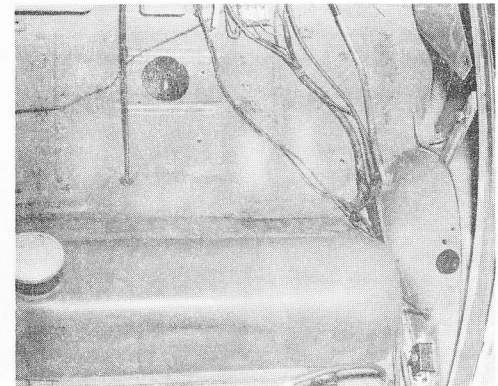

FIGURE 8
1. Locate bracket on left side of vehicle, under luggage compartment hood, which the hood restraining hinge is mounted on. All dimensions will generate from this point whenever possible, as shown in Figures 8 and 9.
9. In the luggage compartment lay the harness on the luggage compartment deck toward the left front wheel well and left rear corner of the hole for the fuel tank. (See Figure 8)
10. Near the left rear corner of the opening for the fuel tank and two (2) inches from the vertical side of the left front wheel well, and two (2) inches from the edge of the hole for the fuel tank, drill one (1), 3/4 inch hole.